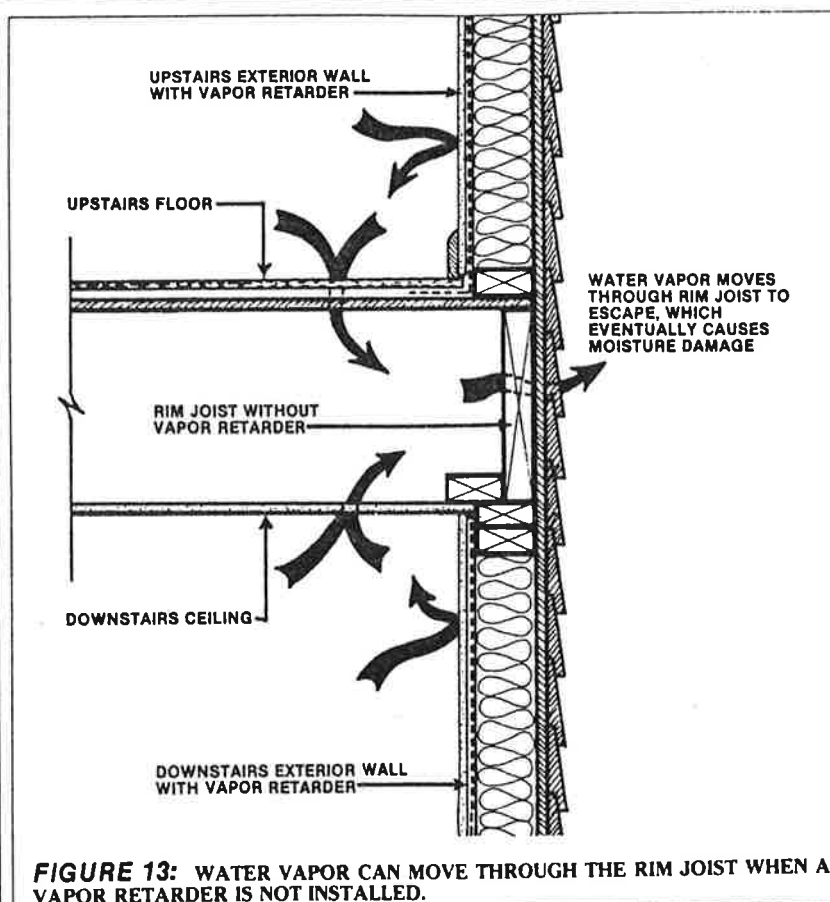

FIGURE 13: WATER VAPOR CAN MOVE THROUGH THE RIM JOIST WHEN A VAPOR RETARDER IS NOT INSTALLED.
- *Incomplete installation of vapor retarders.* If some areas of the house are missed or avoided during vapor retarder installation, these areas can become escape routes for water vapor. If the home has constantly high indoor humidity, these areas can suffer deterioration over time. A typical example is when the vapor retarder is installed over walls and ceilings, but not rim joists (see Figure 13).